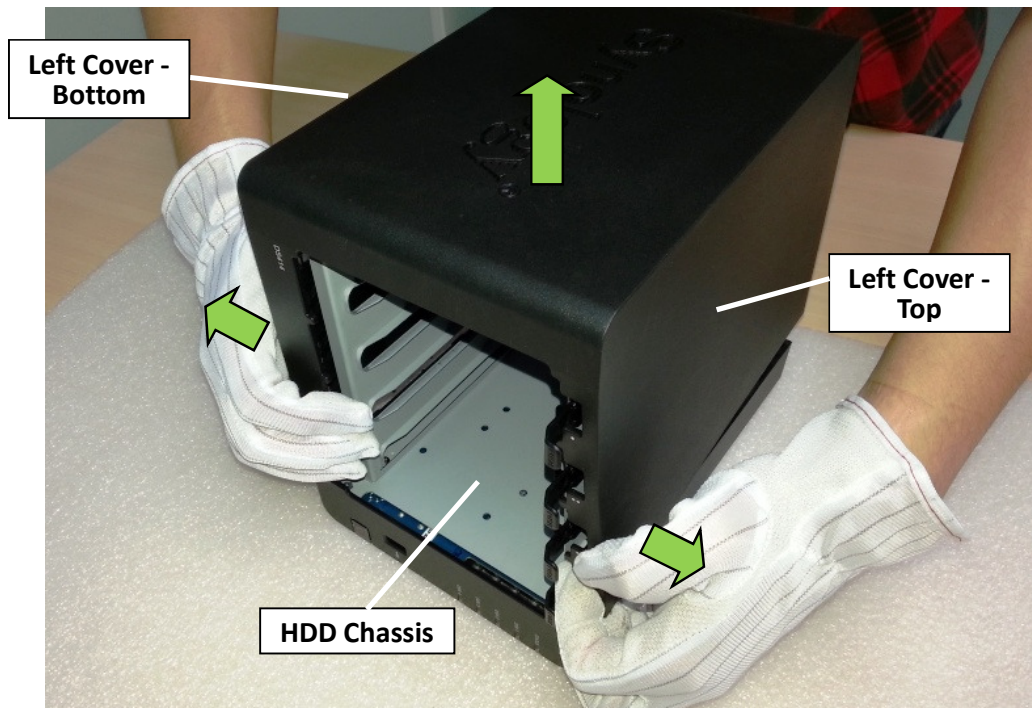

Fig. 11
- 2.1.6 Then slightly bend both the top and bottom portions of the left cover outwards, removing it from the HDD chassis. (Fig. 11)